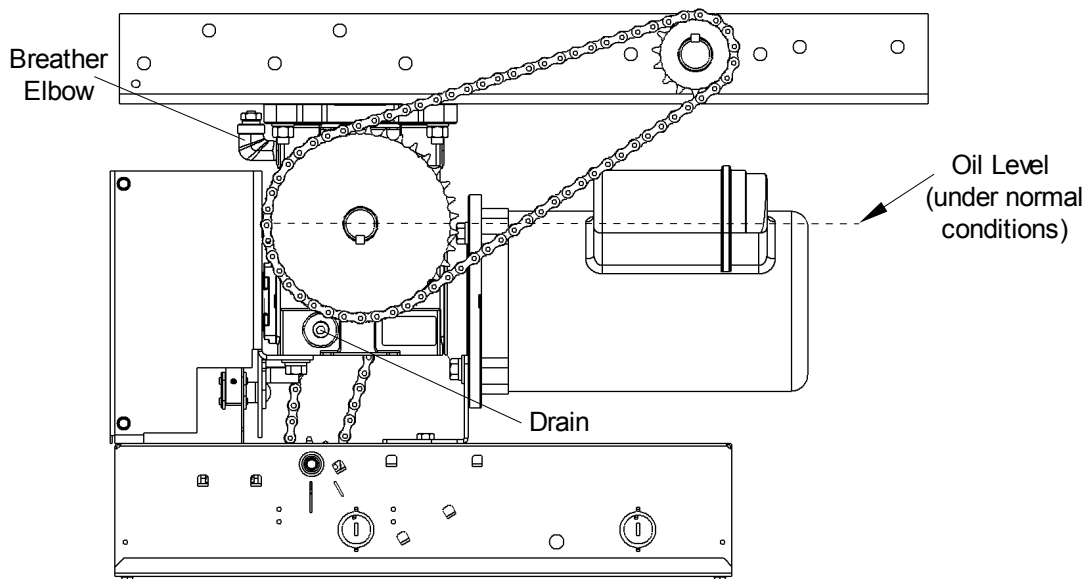

Figure 31 - Gear Reducer Breather
1. Unfasten and remove the breather elbow, refer to Figure 31.